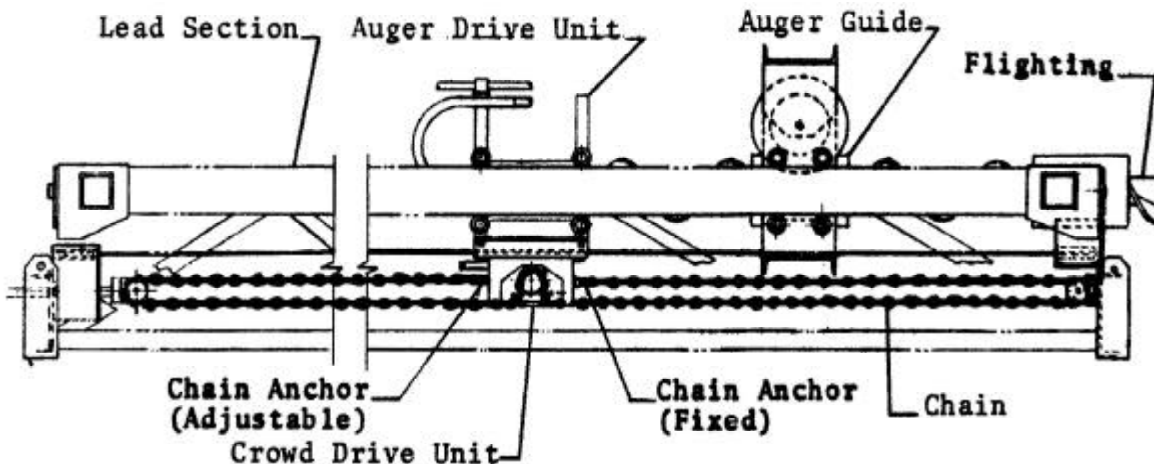

FIG. 2
- e. Connect chain as shown in Fig. 2, page II-3.